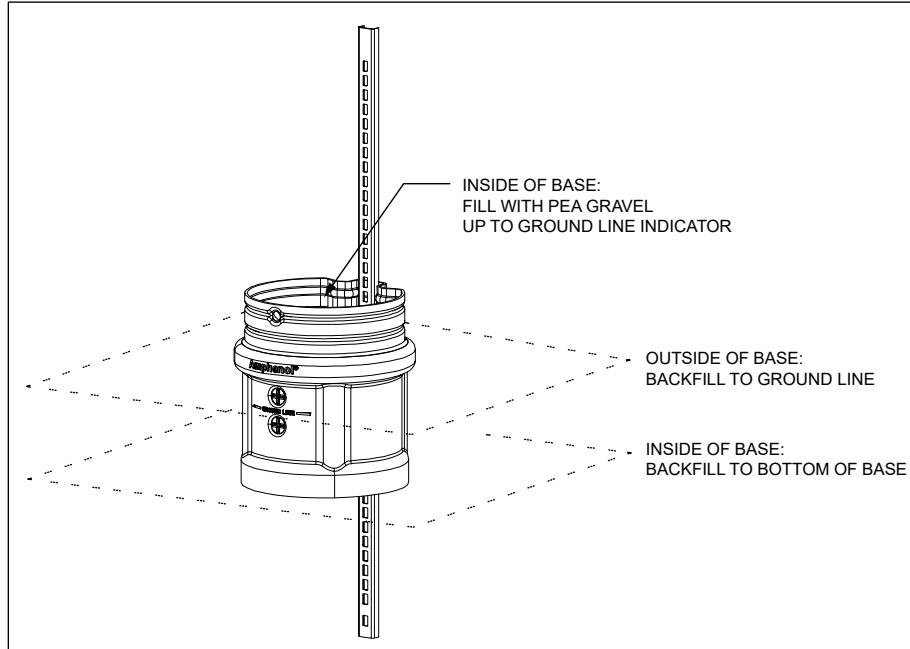

Figure 5 R02 Installation
4. Place the base into the hole. Backfill around the stake (Figure 5).